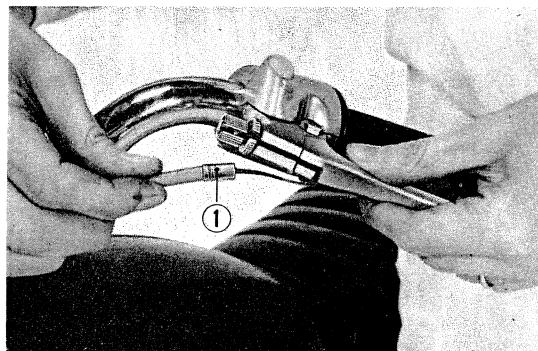

Fig. 120 Clutch cable removal
- 2) Disconnect the clutch cable at the handle clutch lever. (Fig. 120)